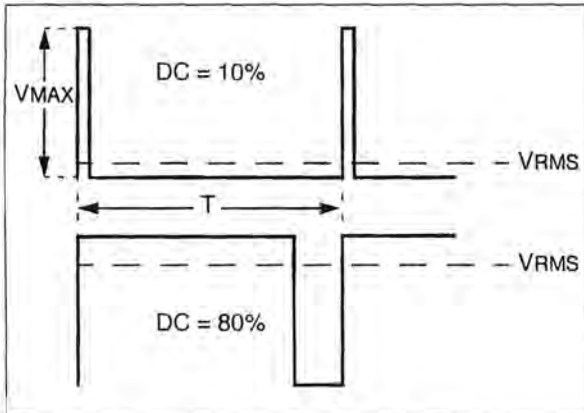

Figure 3: PWM signal
variety of tasks, from dimming LEDs to controlling the speed of a brushed DC electric motor. All these applications are based on one basic principle of PWM signals – as the duty cycle of a PWM signal increases, the average voltage and power provided by the PWM increases. Not only does it increase with duty cycle, but also it increases linearly. **Figure 3** illustrates this point more clearly. Notice that the RMS and maximum voltage are functions of the duty cycle (DC). The following equation shows the relation between V_{RMS} and V_{MAX} .